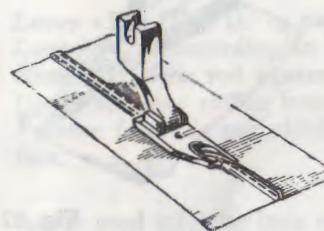

Fig. 44
- Insert edges in hemming foot scroll and sew as for normal straight stitch hem (Fig. 44).